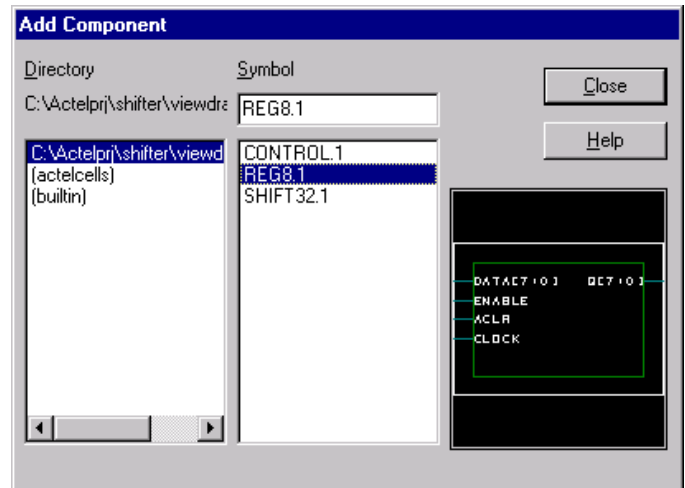

Figure 14 - ViewDraw Add Component dialog box
4. From ViewDraw, choose *Add* from the Component menu. The Add Component dialog box appears (Figure 14).
In the Add Component dialog box, highlight C:\Actelprj\shifter\viewdraw in the Directory window and *reg8.1* in the Symbol window (Figure 14).